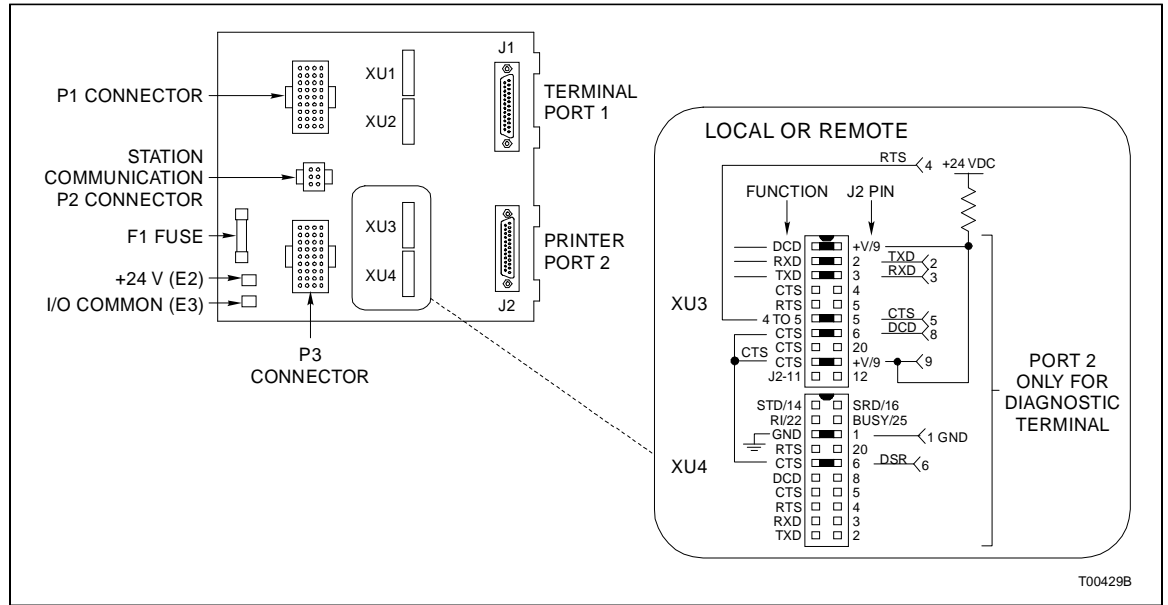

Figure 2-9. Dipshunt Configuration for Diagnostic Terminal (PPT Module)
3. To connect a diagnostic terminal to the INPPRO1 module, use port one on the TMF termination unit and the dipshunt settings shown in Figure 2-9.